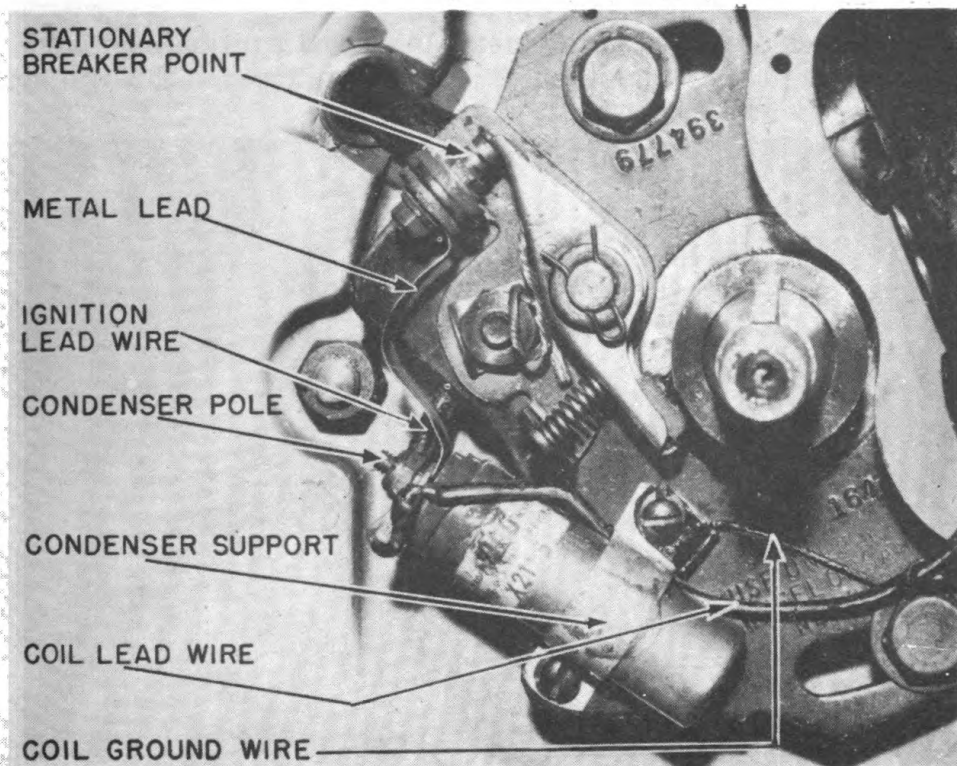
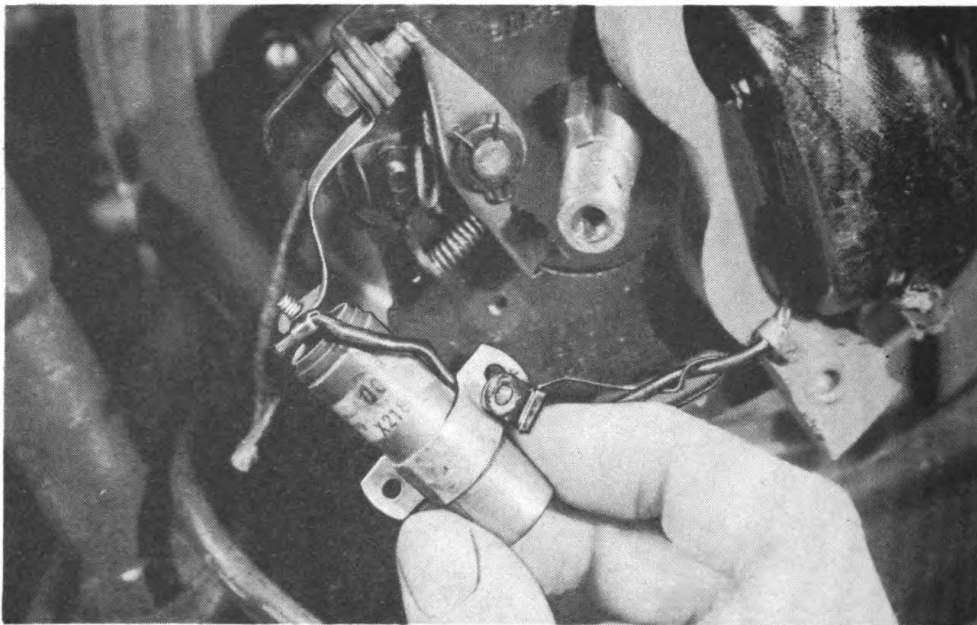

Fig 51. Condenser and related parts.
Fig 52. Installing condenser.
- a. Detach metal lead, ignition lead wire, and coil lead wire from pole of condenser (fig 51), by loosening hex nut and lock washer.
- a. Attach new condenser (fig 51), to stator plate by tightening support screws. Be sure condenser is faced upward toward stationary breaker point as shown in figure 52.